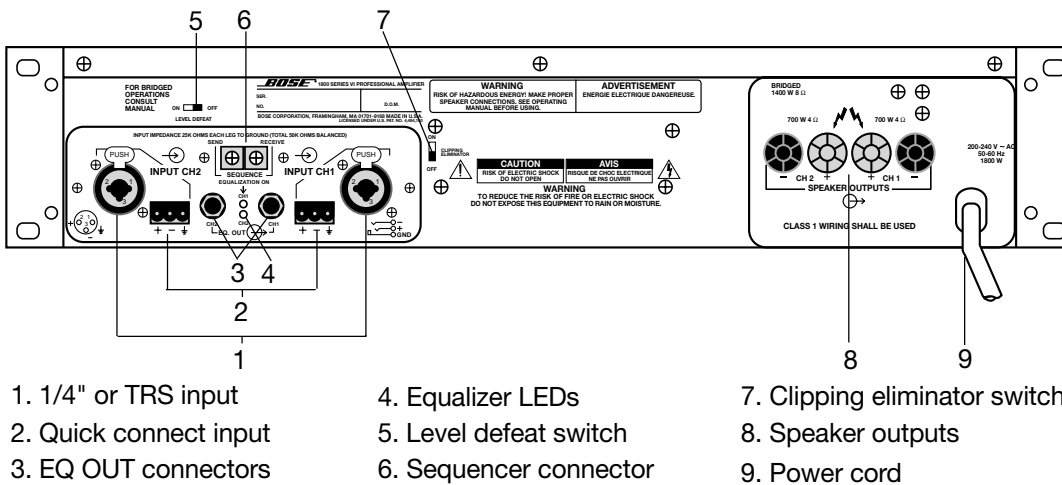

Figure 10
Each channel of the input module has its own equalizer card input connector, which allows different equalization for each channel (provided the correct EQ card is installed). For a view of the input module, refer to Figure 10 on page 16.
5.4 Rear panel (see Figures 10 & 11)